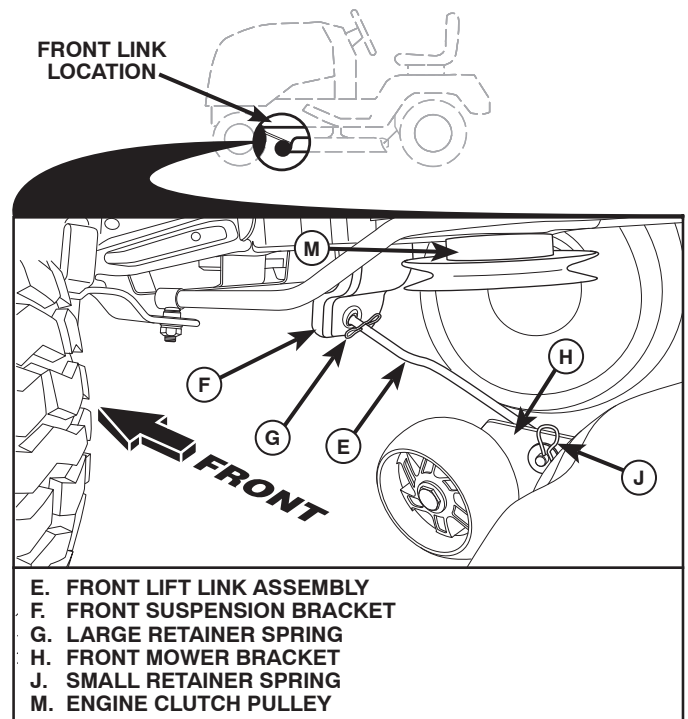

Fig. 14
## 8 ATTACH FRONT LINK (E) (See Fig. 14)
- From front of tractor, insert rod end of front link (E) through front hole in tractor front suspension bracket (F).
- Move to left side of mower and insert large retainer spring (G) through hole in front link (E) behind front suspension bracket (F).
- Insert other end of link (E) into hole in front mower bracket (H) and secure with washer and small retainer spring (J).